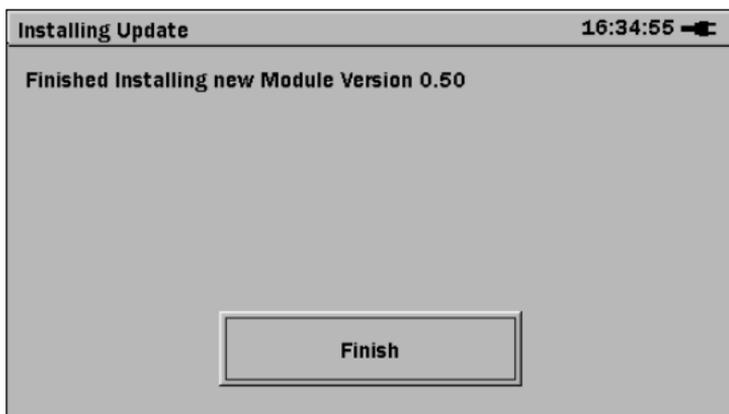

Figure 6-4: Finish Screen
- The installation is complete when the Finish screen appears (see Figure 6-4). Press the **Set** key to finish installation of the upgrade.